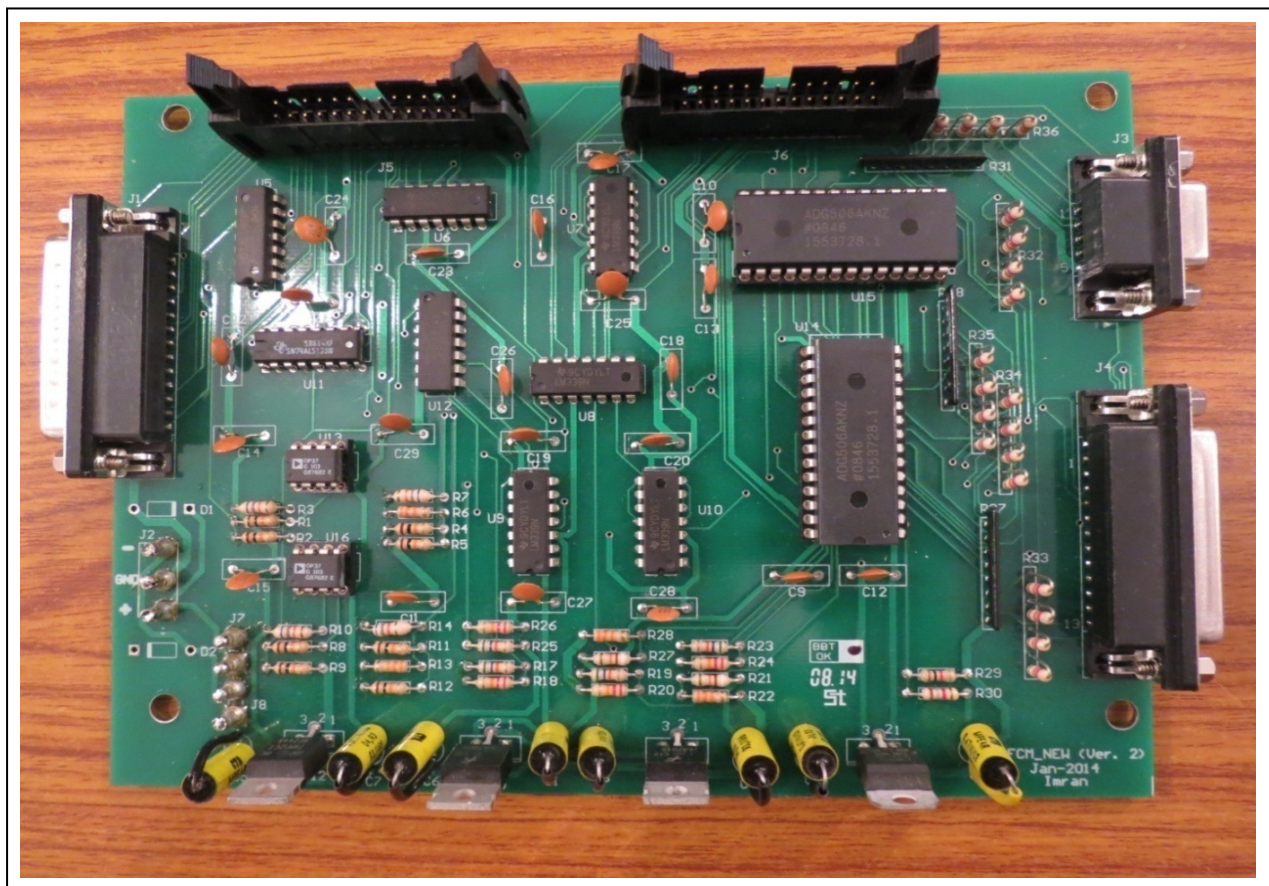

Fig.5 Assembled RFCM card Ver.2
7. Figure 5. Assembled RFCM card Ver.2.....	Page 13
Fig.5 shows the assembled RFCM Card Ver. 2. The card was found to be working satisfactorily for all the functionalities. But in this version of the card, only five monitoring points were available as spare to monitor five external inputs. These monitoring points had to be soldered directly on the multiplexer IC. Also, the card did not have provision for TTL inputs used for filter selection which is required in existing L band front end as well as other bands in upgraded GMRT. In order to overcome these shortcomings and to meet the requirement of upgraded GMRT, it was decided to modify this card to support all the existing front ends as well as upgraded GMRT front ends and have one unified control and monitoring card for all the GMRT front end systems.